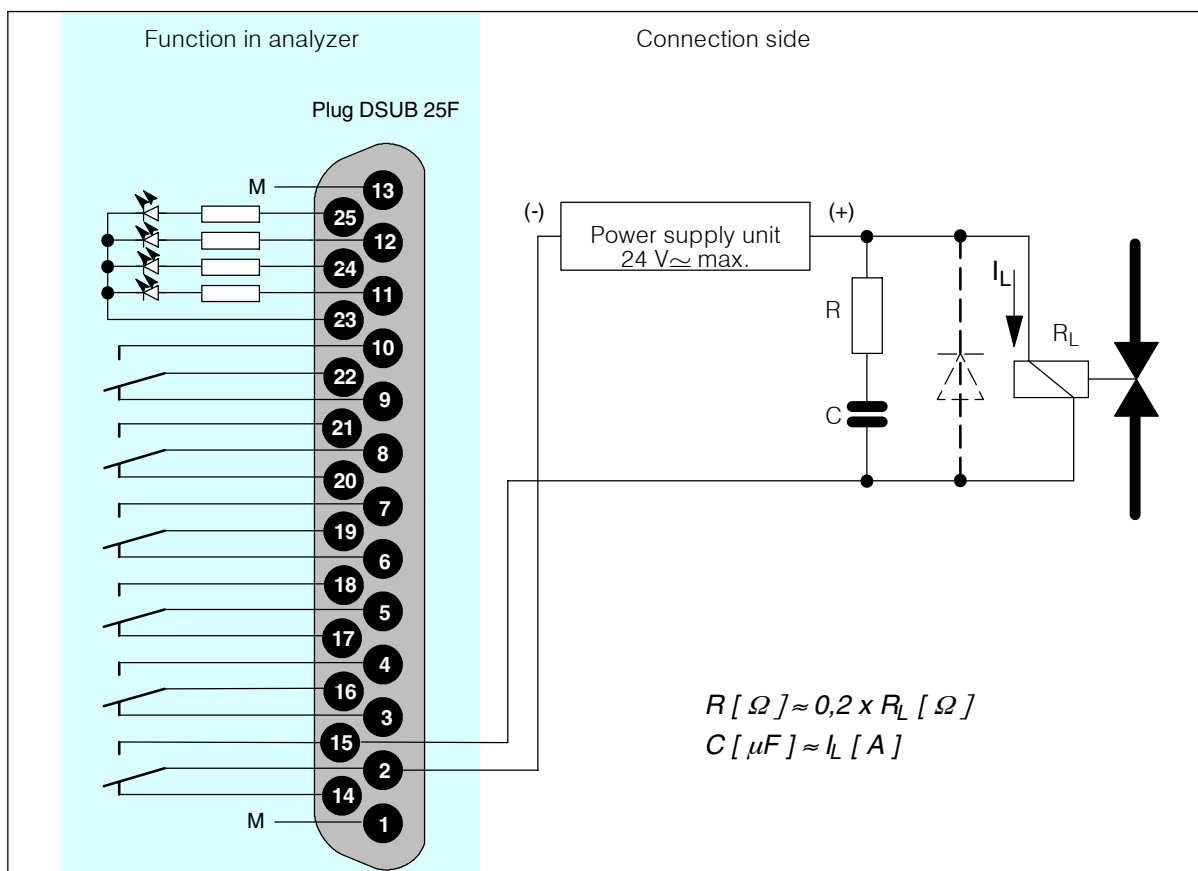

Fig. 2-14 Example of measure to suppress sparks on a relay contact (rack mount analyzer)
- RC elements must be connected according to Fig. 2-14 as a measure to suppress the generation of sparks across the relay contacts (e.g. limit relays). Note that the RC element causes a delay concerning the rate of fall of an inductive component (e.g. solenoid valve).